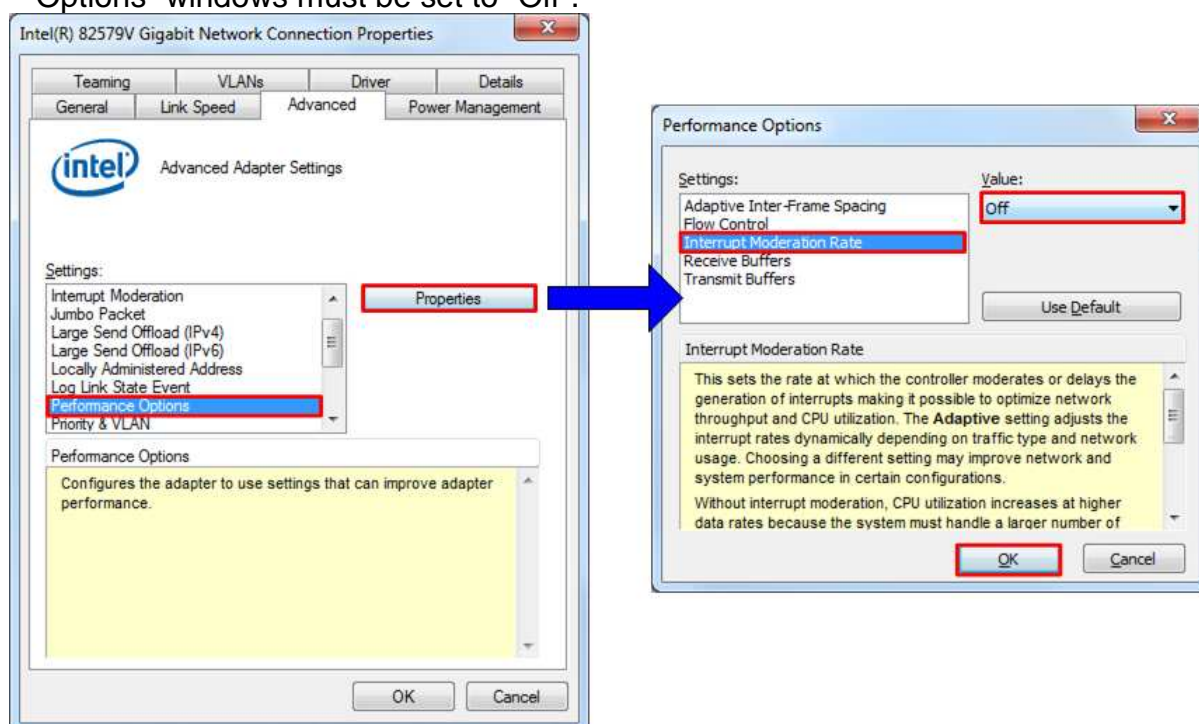

Figure 3-5 Enable Interrupt Moderation
- For Intel LAN controller, Performance Options in “Advanced” tab should be set for better performance as shown in Figure 3-5. “Interrupt Moderation Rate” in “Performance Options” windows must be set to “Off”.